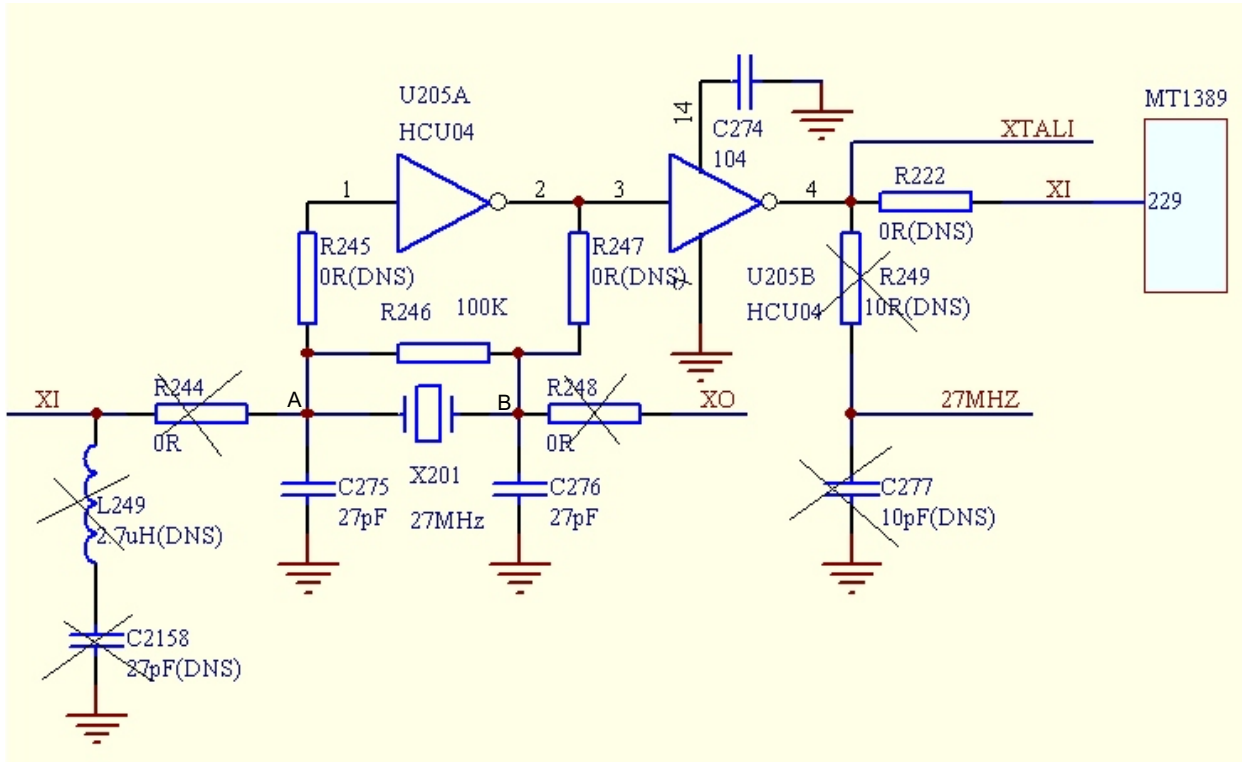

Figure 3.2.5.1 Clock circuit
- The circuit schematic diagram is shown as the figure 3.2.5.1.